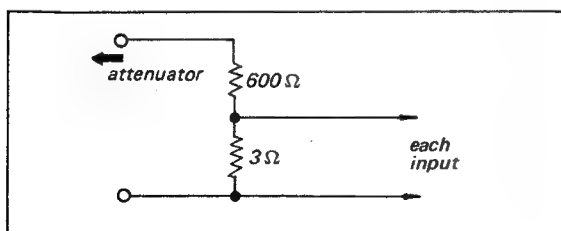

Fig. 3-1. 46 dB pad
Note: 1. When measuring the sensitivity of the PHONO-1 LOW LEVEL input, insert a 46 dB pad (shown in Fig. 3-1.) between the attenuator and input terminal. The input sensitivity may be regarded as the reading on the attenuator plus the pad loss.
* The PHONO-1 IMPEDANCE SELECTOR switch should be set to 30 Ω and an additional attenuator pad (See Fig. 3-1.) used between the main attenuator and input jack.